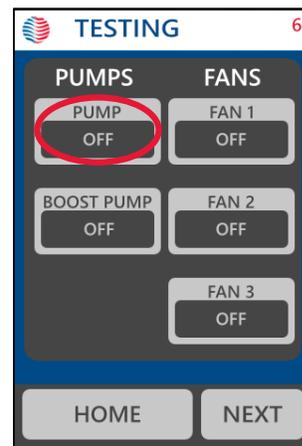

Figure 85.
4. Locate the fluid fill port (shown in Figure 85).